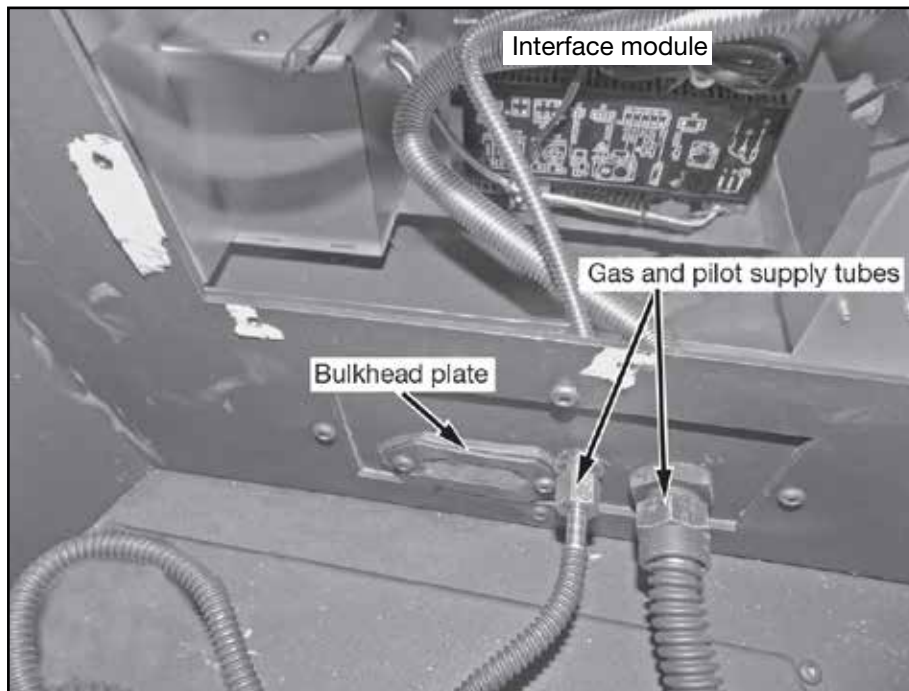

Figure 5: Attach gas supply tubes to bulkhead.
4. Attach the center supply tube from the “T” and the pilot gas supply tube to the bulk head fitting and tighten (Figure 5).